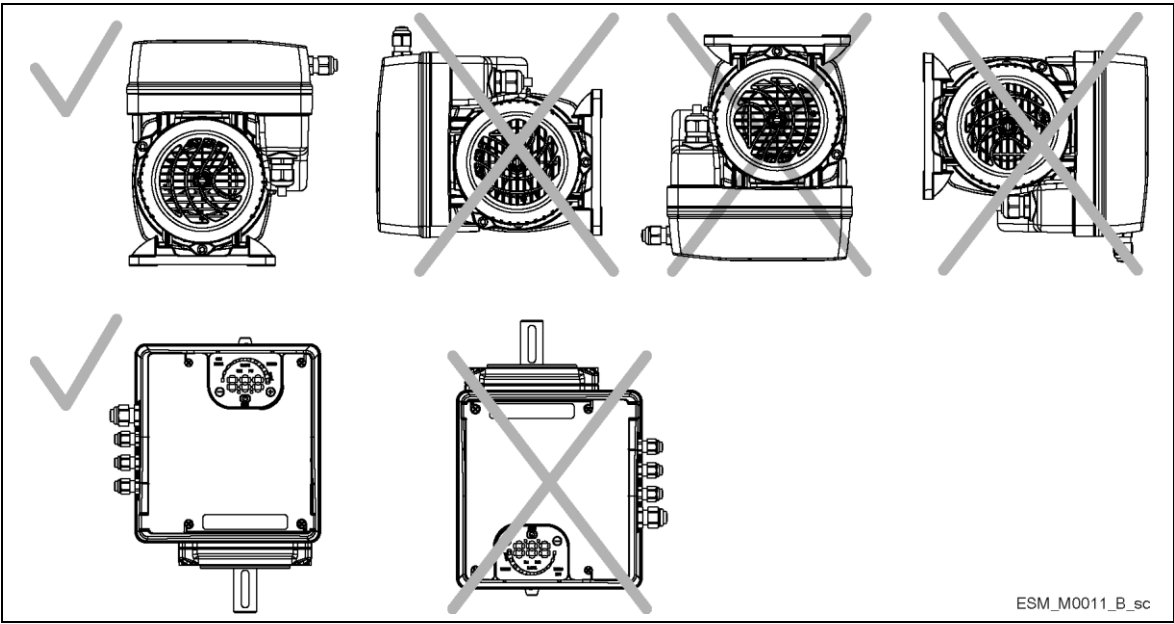

Figure 10: Permitted positions
- Position the unit as shown in Figure 10